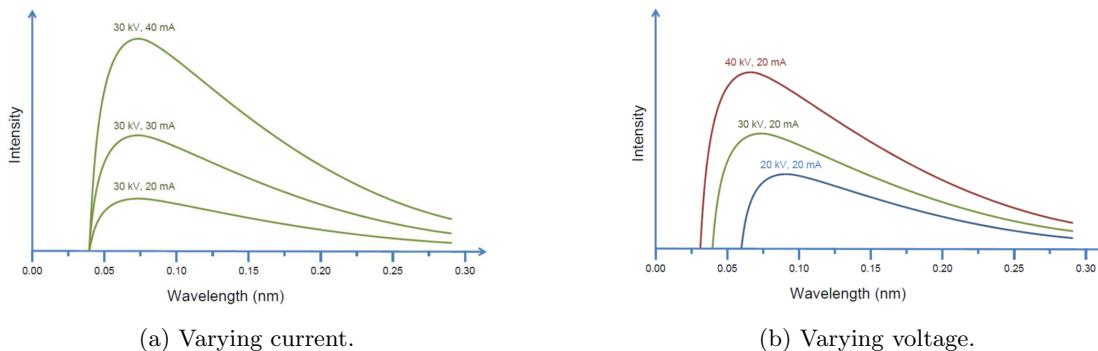

Figure 1.9: X-ray intensity vs. wavelength at different voltages and currents.
- $\lambda_{\min}$  is the  $x$ -intercept in Figure 1.9.